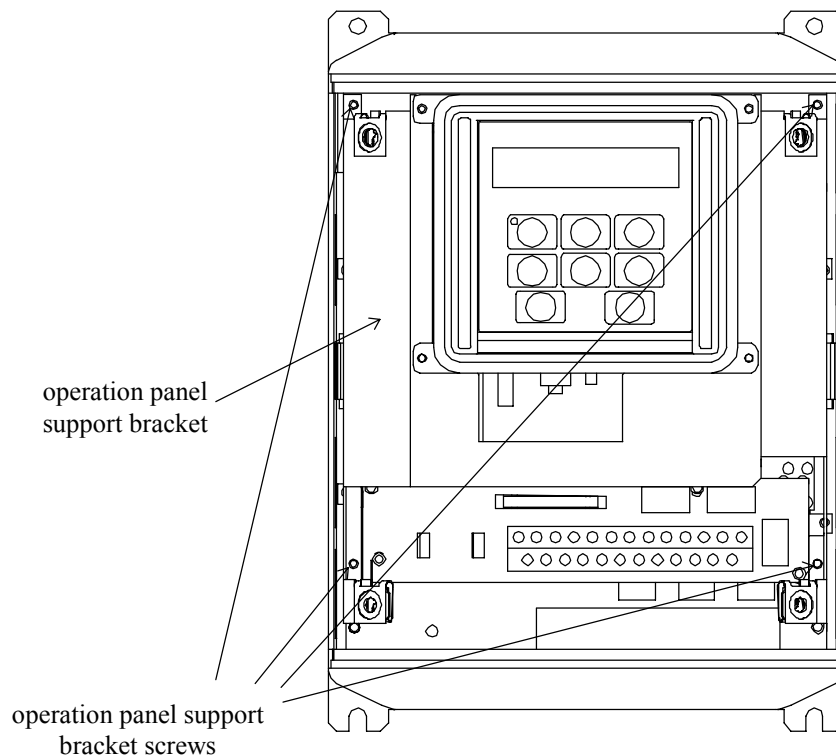

Figure 1: G3 with front cover removed
4. Loosen the 4 screws attaching the G3's operation panel support bracket to the control board support bracket and remove the operation panel and support bracket as a unit (refer to Figure 1).